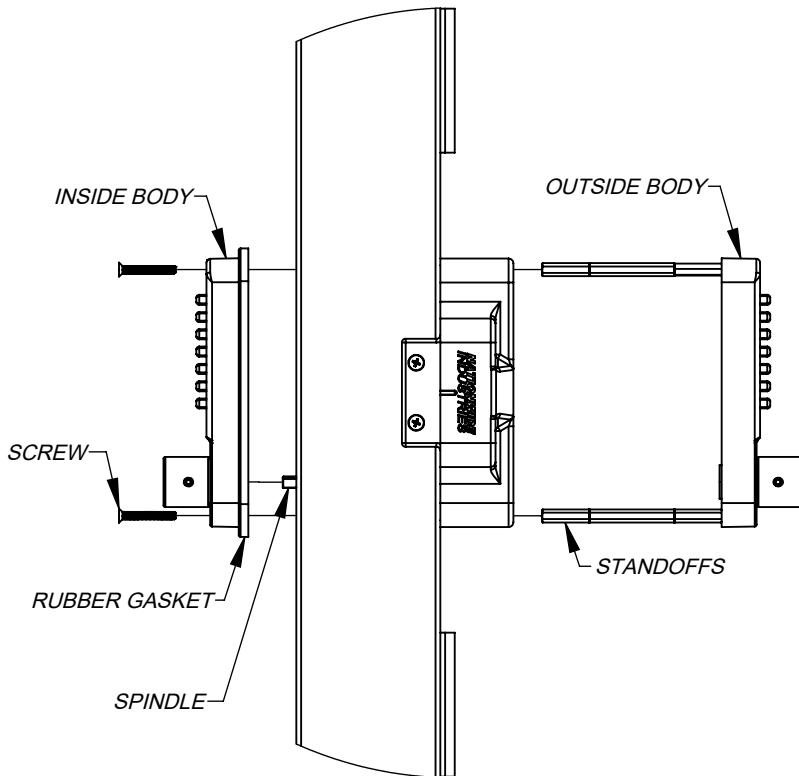

Figure 15
6) Insert the KYPD outside body into the Adapter Housing, with the standoffs passing through the standoff holes, and with the spindle properly oriented in the spindle hole (Figure 15). Hold the KYPD inside body up to the inside surface of the gate at the proper location, with the spindle inserted properly into the spindle hole of the inside body. Use the screws selected in Step 3 to attach the inside body to the outside body.